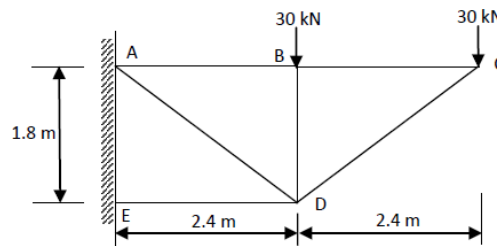

fig.28
1. Find the forces in the members of a truss as shown in fig.28 [10 M]